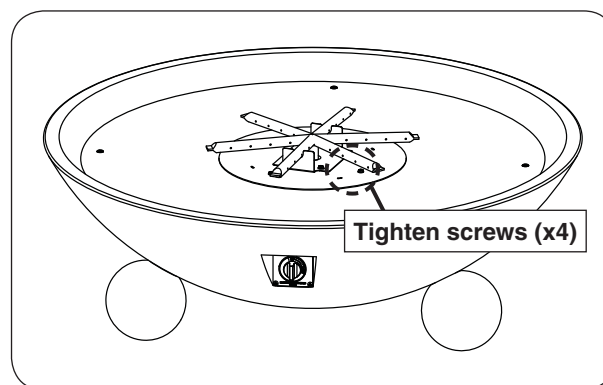

Fig. 26-3 Reinstall burner (if applicable)
2. Use a $\frac{5}{16}$ " nut driver to fasten the burner to the base (see Fig. 26-3).